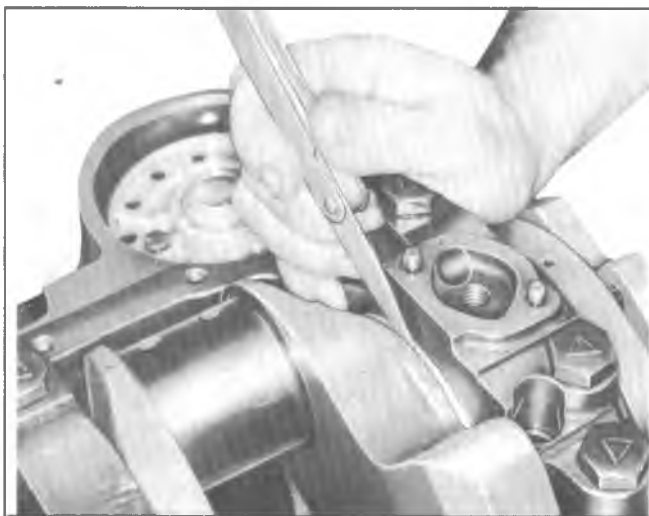

Fig. 6A4-45--Measuring Crankshaft End Play
9. Measure crankshaft end play (see specifications) by forcing the crankshaft to the extreme front position. Measure at the front end of the rear main bearing with a feeler gage (fig. 6A4-45).